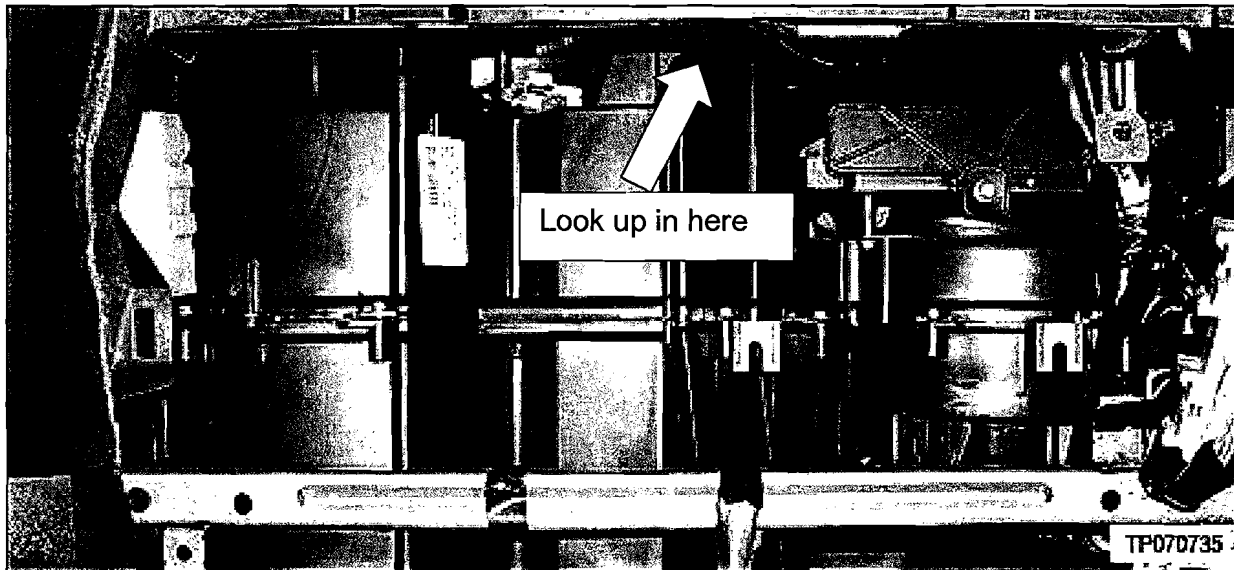

Figure A14
4. Look in the glove box opening, locate and disconnect both of the front passenger air bag module connectors (see Figure A14).